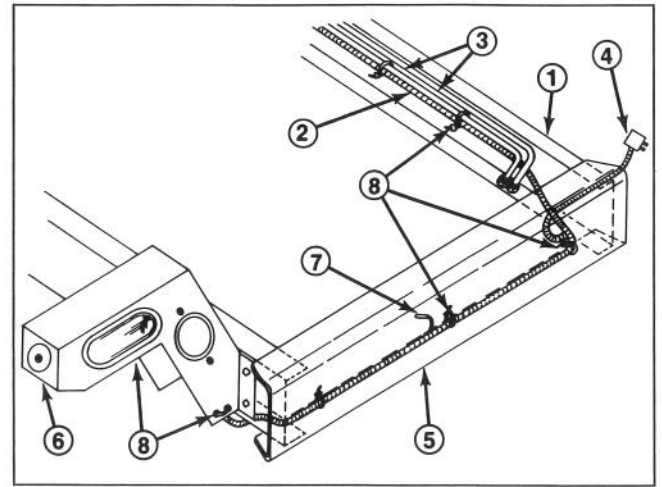

Figure 25
1. Route the harness down the right side of the engine along the 1 in. diameter steel hydraulic tubing to the back bumper. Use cable ties to secure the harness to the original machine wire harness, as needed (Fig. 25).
2. Connect the right hand harness connector to the right hand taillight assembly connector (Fig. 25).
3. Connect the left hand harness connector to the left hand taillight assembly connector (Fig. 25).
4. Insert cable ties through the holes in each arm and secure the harness to the arms (Fig. 25).
**Note:** An extra brown lead with connector is included for connection to a license plate light assembly, should one be necessary (Fig. 25).
5. Insert cable ties through the drilled holes in the rear bumper and secure the taillight wire harness to the bumper (Fig. 25).